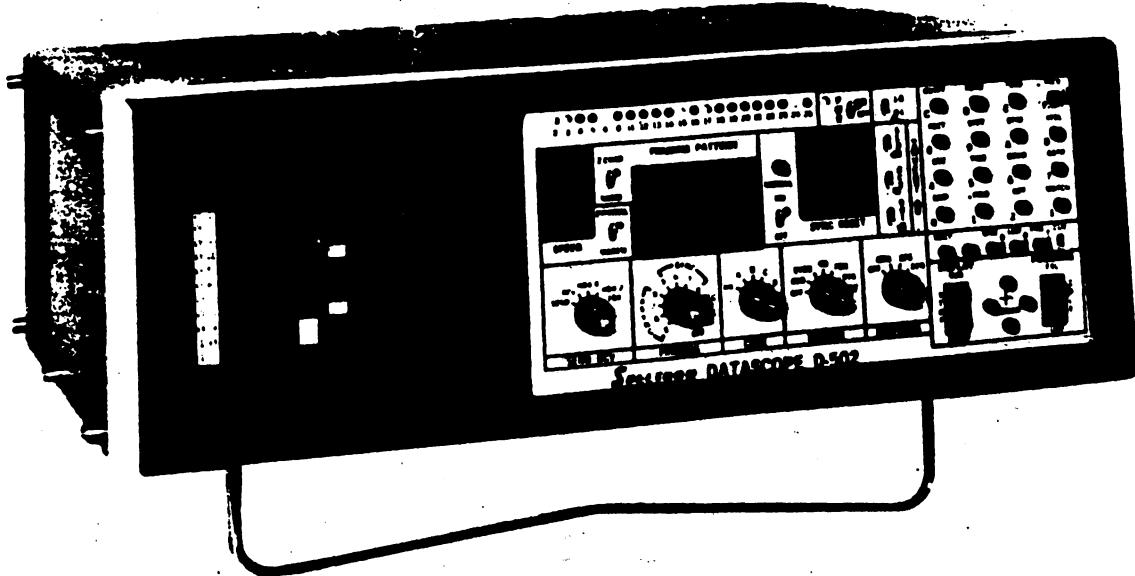
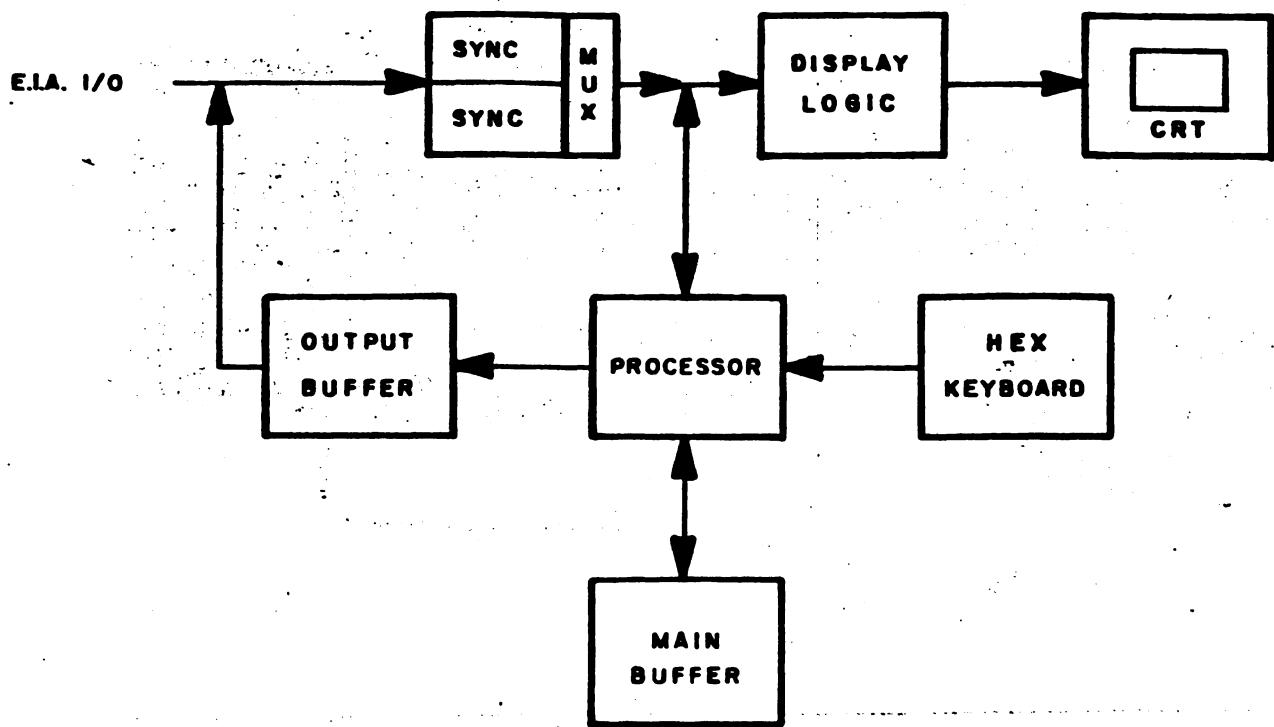

Figure 1. DATASCOPE Model D-502
Figure 2. Block Diagram
The Spectron DATASCOPE Model D-502 (Figure 1) is a versatile, microprocessor-based test instrument for interactive troubleshooting and monitoring of data communications channels. It is similar to the D-501, but with an output buffer and an output instruction added to permit interactive operation and transfer of programs. It provides a CRT display of all traffic at the business machine (EIA RS-232) interface of any standard modem. It is compatible with most forms of data transmission, whether synchronous or asynchronous, and it operates at any speed up to 72 KBPS. It may be connected to the data link directly or, for monitoring only, through a remote connection unit which bridges the interface and provides electrical isolation and signal level conversion without adding cable length or increasing electrical loading. The block diagram (Figure 2) shows internal DATASCOPE components.
--SEND OR These switches reverse the electrical RCV: polarity of signals delivered to the sync logic (see Figure 2). Down-normal polarity.